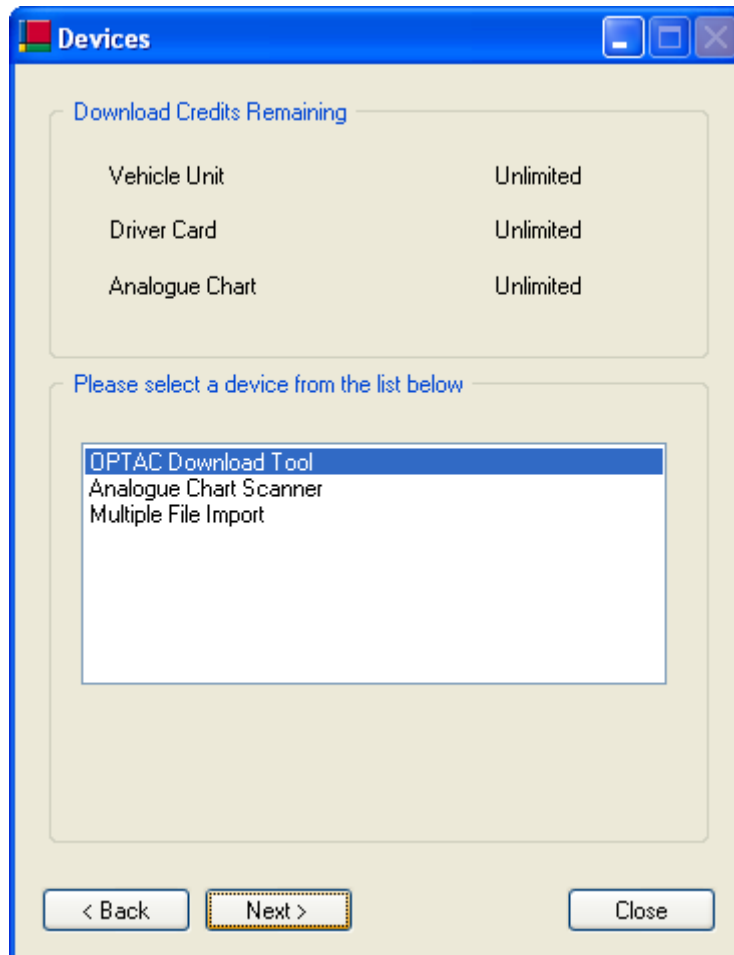

Figure 9
- 5.1. The OPTAC3 Import Wizard allows you to import data from your analogue charts into the database. To import the data from your analogue charts, select 'Analogue Chart Scanner' in the Device Menu as shown in *Figure 9*. After clicking 'Next', the following screen is presented:
- 6.1. To Import files from a folder on a computer or other medium, select 'Import Multiple Files' in the Device Menu as shown in *Figure 9*. After clicking 'Next', the following screen is presented: